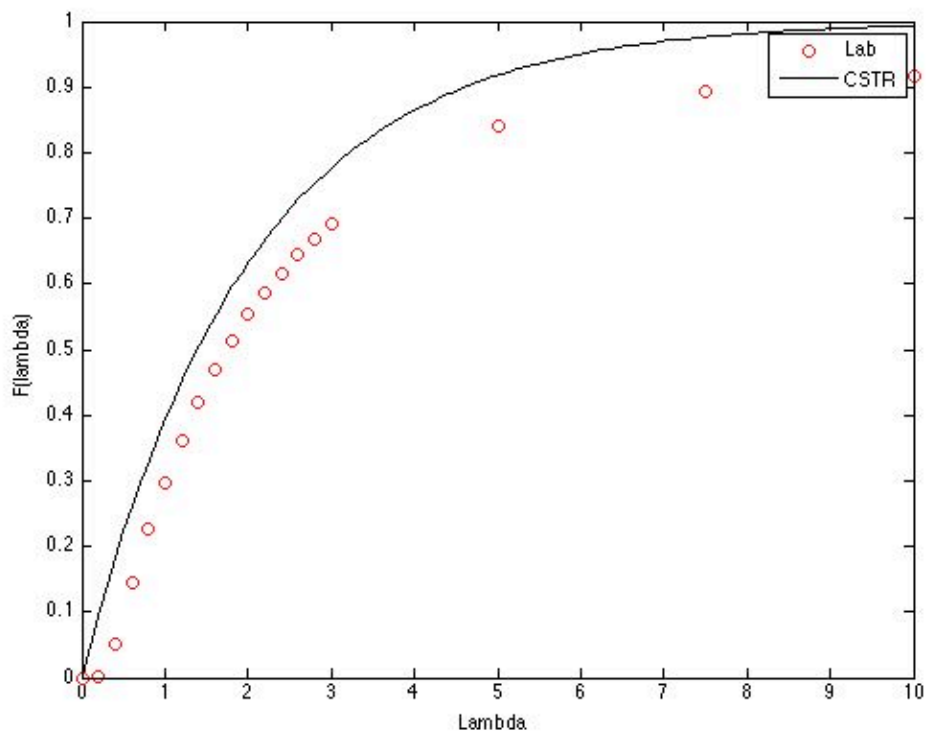

Figure 2. Comparison of the experimental and ideal age functions.
In order to test whether the laboratory reactor obeys the assumptions of an ideal CSTR, the values of  $F(\lambda)$  calculated for the laboratory reactor using equation (4) can be plotted as a function of  $\lambda$ . On the same set of axes, the CSTR age function, calculated using equation (5), can also be plotted. The resulting plots are shown in Figure 2. The figure shows that the experimental data deviate significantly from the values expected for an ideal CSTR, so the reactor should not be modeled as an ideal CSTR.